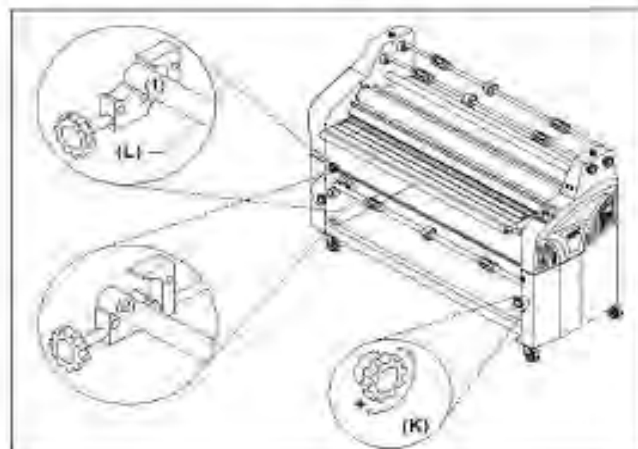

Fig. 17
KNOBS: (Figure 17) Left and right adjustable brake tensions. Applies brake tension to the lower unwind shaft. Turning the knob clockwise increases tension and counterclockwise decreases brake tension.
L. LOWER UNWIND SHAFT: (Figure 17)